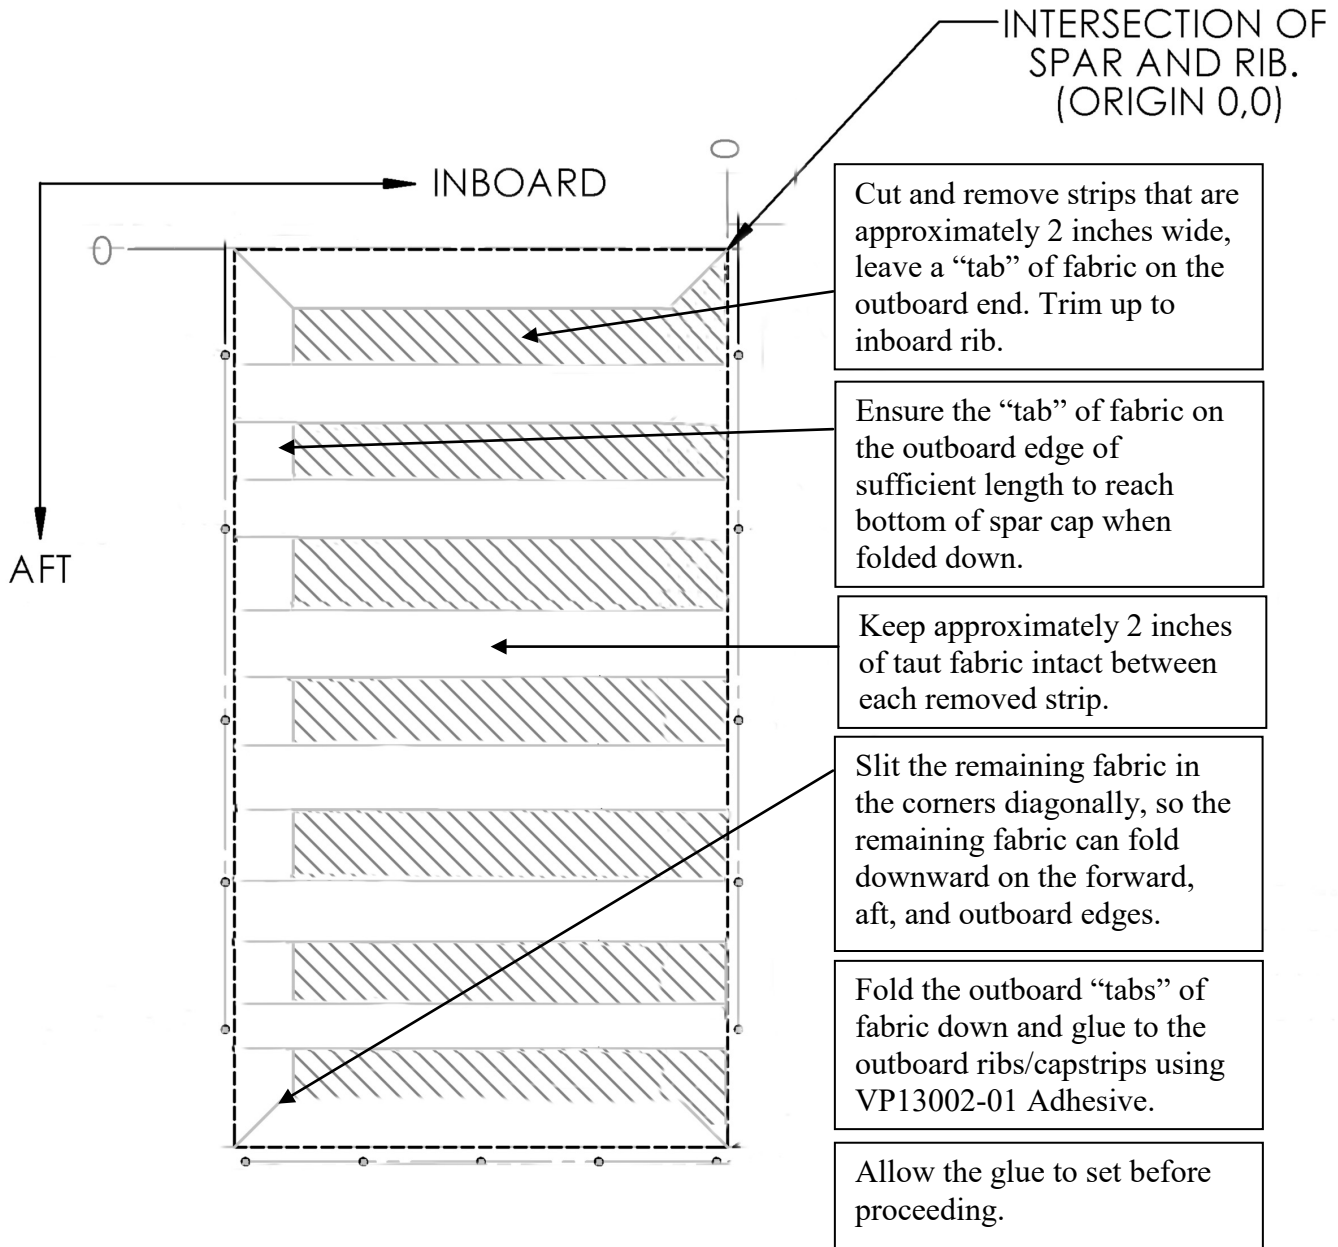
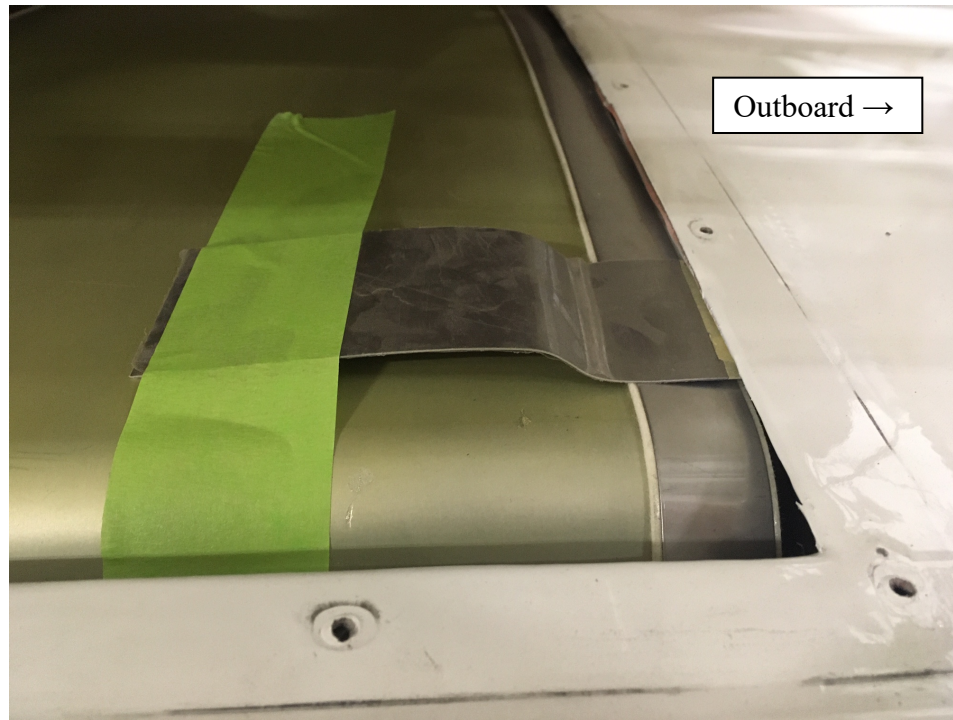

Figure 3b – Tank Bay Hole, Fabric Cutting
Figure 3d – Holding Outboard Fabric Underneath Capstrip While Gluing
15. Cut fabric in the first rib bay as shown in figures 3b and 3c. Cutting strips will help preserve fabric tension by gluing the outboard fabric flaps (in two stages) to the ribs/capstrips using adhesive 3m Super Weatherstrip Adhesive (VP13002-01). It may be useful to use bent pieces of sheet metal to “clamp” the fabric strips with upward force while gluing under the capstrips. See figure 3d.